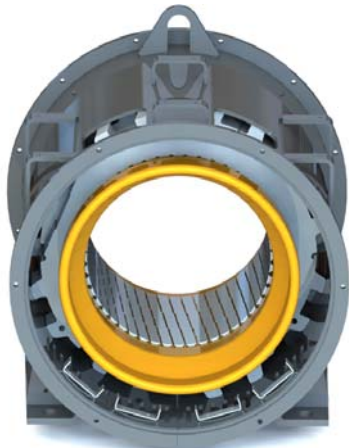

Figure 6.1: Ceramic resistances clamps attached internally in the back side of alternator
5. Carry out the frame drilling and attaching of 04 clamps with rivets, according to Figure 6.1;